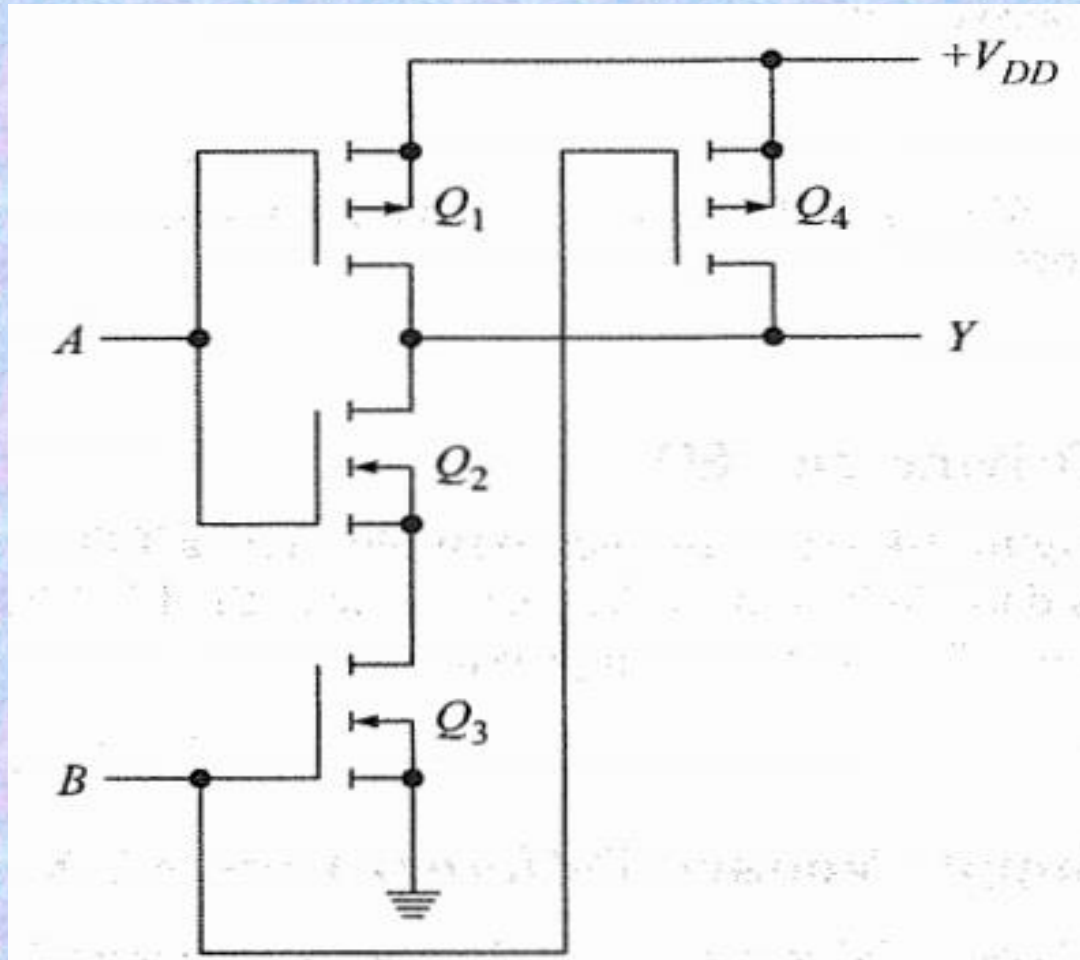

Fig. 1.29 CMOS NAND gate
- Figure 1.29 shows a CMOS NAND gate. The complementary design of input and output stages is typical of CMOS devices. Notice that Q_1 and Q_2 form one complementary connection; Q_3 and Q_4 form another; Visualize these transistors as switches. Then a low A input will close Q_1 and open Q_2 ; a high A input will open Q_1 and close Q_2 . Similarly, a low B input will open Q_3 , and close Q_4 ; a high B input will close Q_3 and open Q_4 .
- In Fig. 1.29, the Y output is pulled up to the supply voltage when either Q_1 or Q_4 is conducting. The output is pulled down to ground only when Q_2 and Q_3 are conducting. If you keep this in mind, it simplifies the following discussion.
- Table 1.6 summarizes all input-output possibilities. As you can see, this is the truth table of a positive NAND gate. The output is low only when all inputs are high. To produce the positive AND function, we can connect the output of Fig. 1.29 to a CMOS inverter.